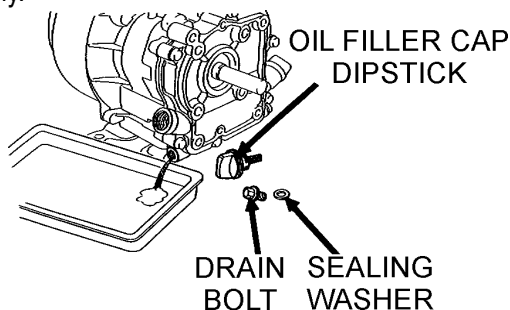

Figure 27. Engine Oil (Draining)
- Drain the engine oil when the oil is **warm** as shown in Figure 27.